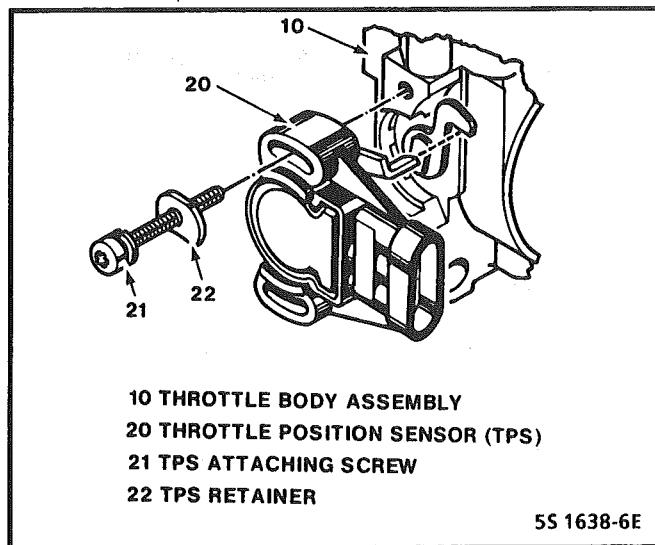

Figure C1-13 Throttle Position Sensor Service
1. With throttle valve in the normal closed idle position, install throttle position sensor on throttle body assembly, making sure TPS pickup lever lines up with tang on throttle actuator lever. (See Figure C1-13)